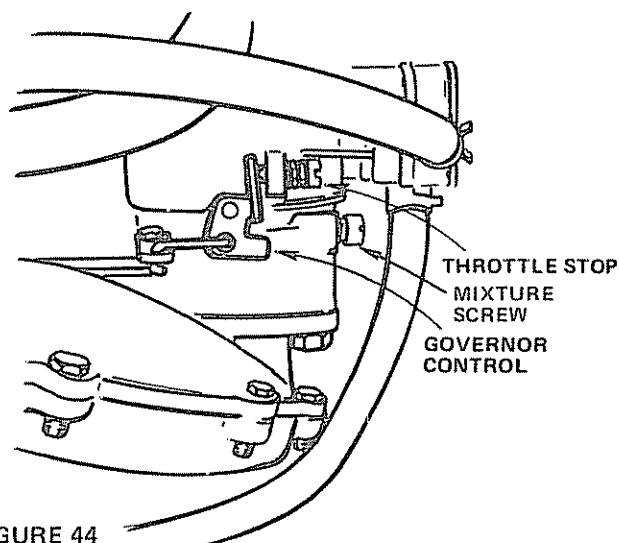

FIGURE 44
- Hold Governor Control against Throttle Stop. Turn Mixture Screw clockwise (↻) until engine just starts to slow (Fig. 44).